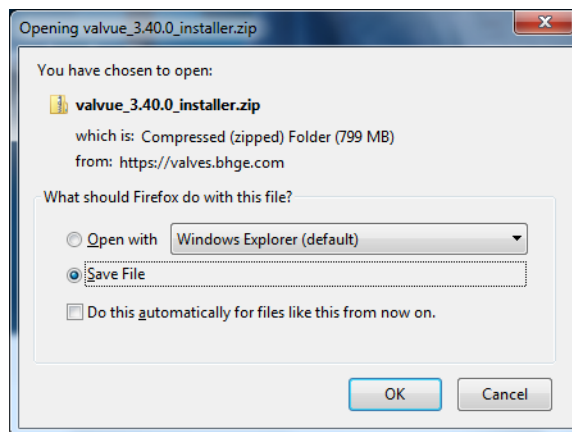

Figure 9 Opening Dialog
2. Click **Download** below *ValVue Installer Download* and Figure 9 appears.